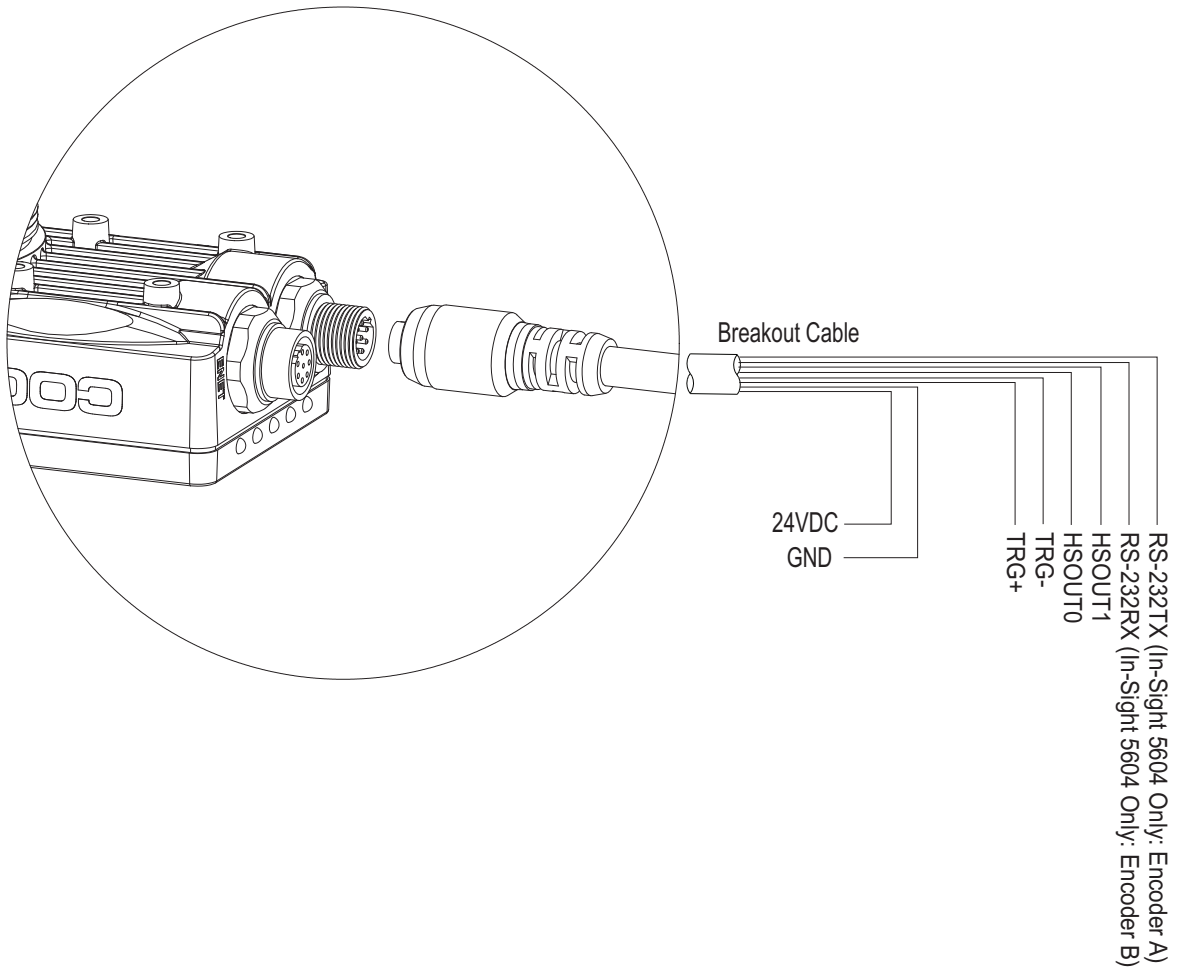

Figure 2-6: Power Connections
4. Connect the power supply to the Breakout cable (Figure 2-6). Attach the Breakout cable to the 24VDC connector on the vision system.